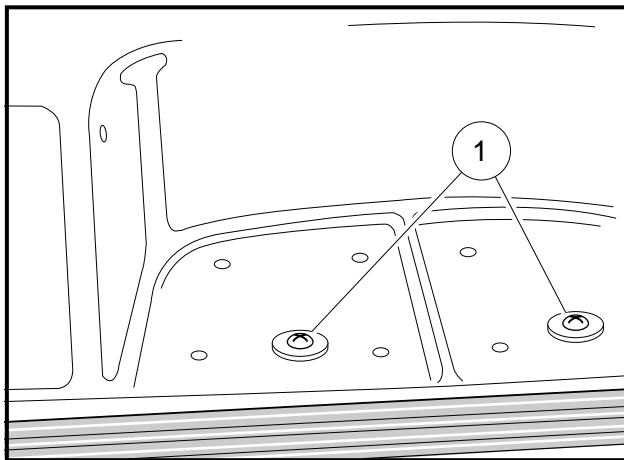

Figure 4-7 Rear Body
4. Remove two screws (1), washers and locknuts located at the rear of the vehicle **(Figure 4-7, Page 4-7)**.
- 1.2. Tighten two screws (1) and locknuts located under rear body to 20 in-lb (2.3 N·m) (**Figure 4-7, Page 4-7**).